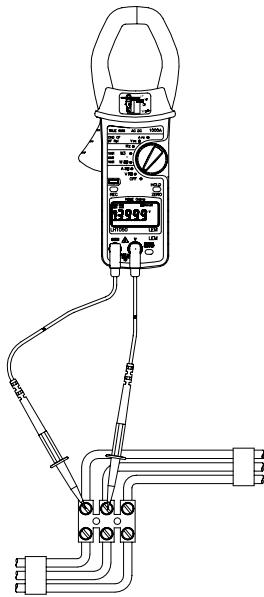

Fig. 3
- Insert the test leads into the sockets on the front of the instrument, the red lead to the V terminal and the black lead to the COM terminal, as shown in Fig. 3.
- Press the trigger to open the jaws and clamp them around the current carrying conductor as shown in Fig. 3
- To measure the frequency of the voltage supply apply the test leads to the circuit as shown in Fig. 3 and read the display